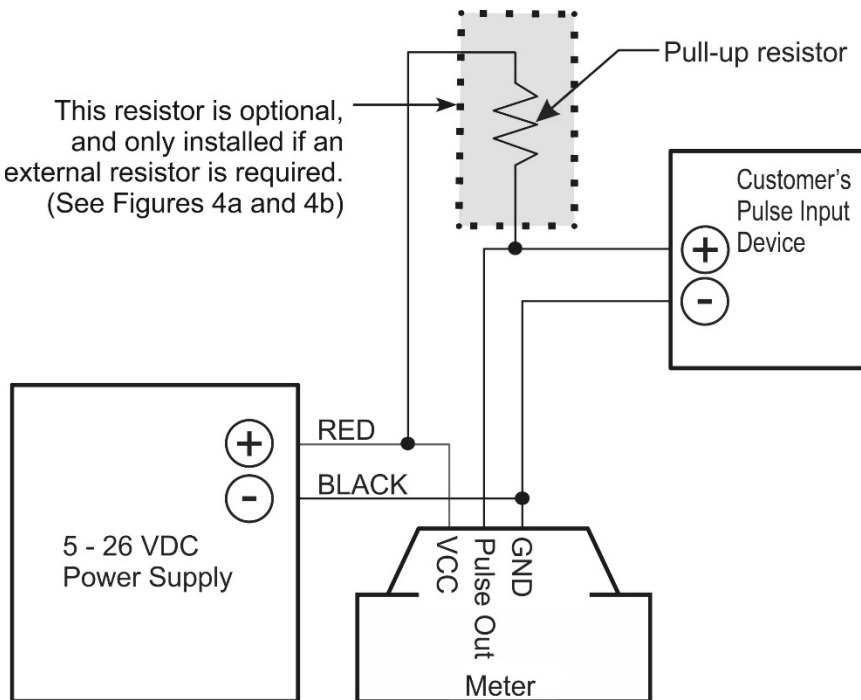

Figure 3
The Pulse Access module comes pre-wired for external connections to external power and provides an open collector output, which can be set for either raw or scaled pulse output. The wires are color-coded and are to be connected as shown in Figures 3 & 4.
When the Jumper is on the top two pins, the “external resistor required” option is selected (Figure 4a). This external resistor can be installed as shown on Figure 3, but could also be built into the existing customer equipment.
* See Installation Section of this manual for external power info and external/internal pull-up resistor info. Figures 3, 4a, 4b, 5a, 5b, & 5c